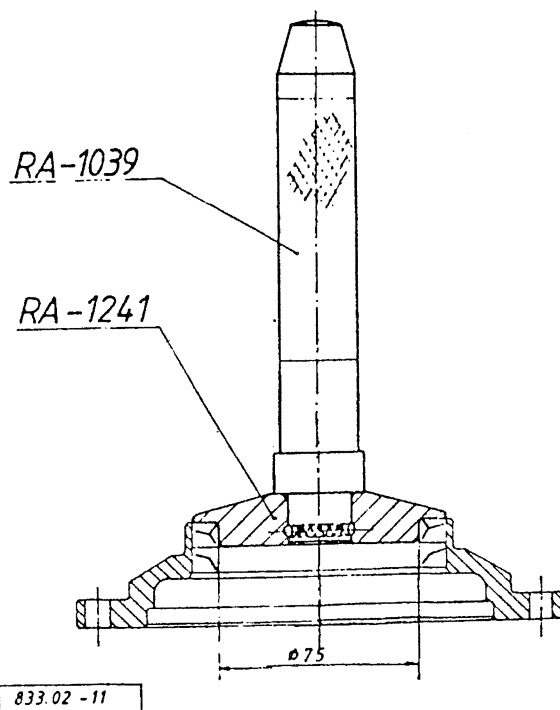

Fig. 1.: DRIVING OUT THE SEALING RINGS
Remove the flanged castle nut (1), then pull off the companion flange (Fig. 1. and 2. of Section 283).
Drive out the used seal by means of the tools shown (see Fig. 1.).